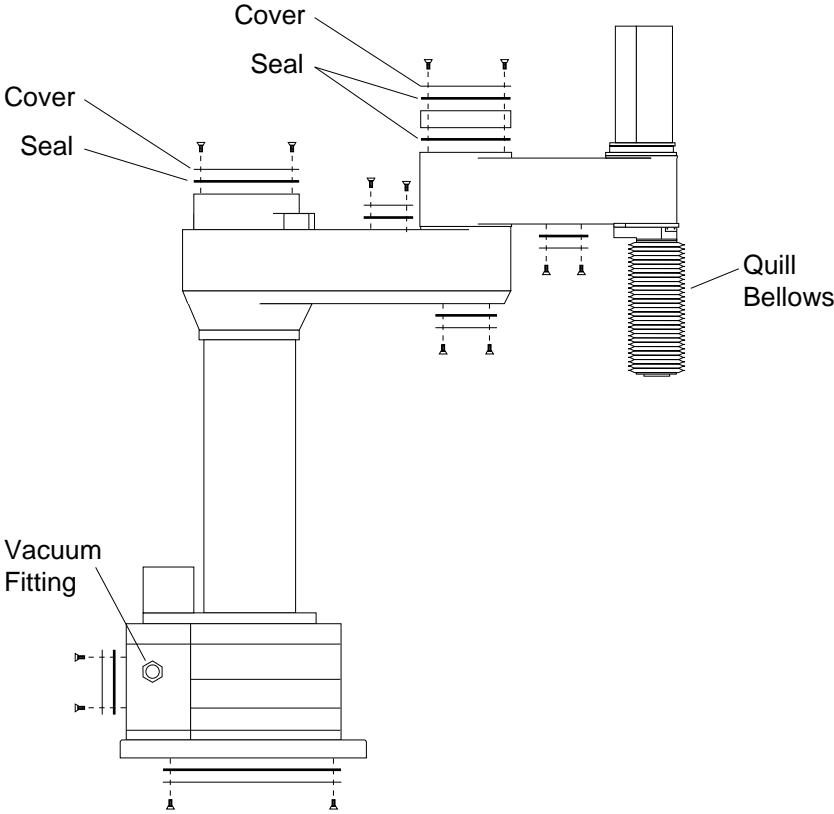

Figure B-1. CleanRoom Features
**NOTE:** Seals are present under the access covers, see Figure B-1. If removal of an access cover is necessary, the seal must be put back in place. The robot will not meet class 10 cleanroom specification unless all seals are in place, and proper vacuum is maintained.
The CleanRoom option provides a 1-1/4 inch male thread pipe fitting for the vacuum connection on the outside of the base of the robot, see Figure B-1. This can be adapted to any vacuum supply pipe being used. Adept recommends the connection include the following features: